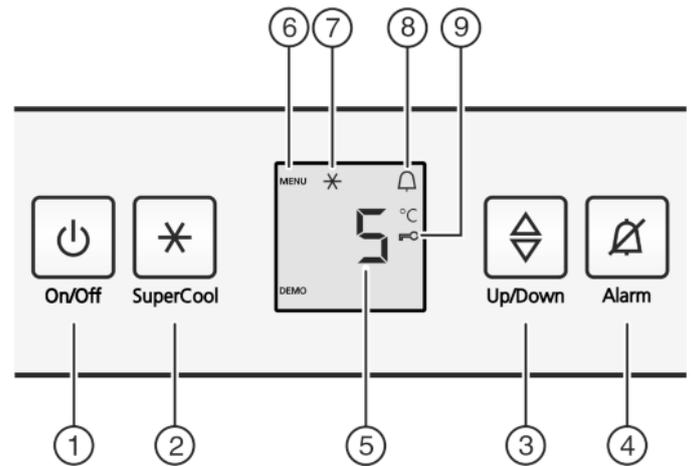

Fig. 2
- ▶ Press the On/Off button Fig. 2 (1).
- ▶ Press the SuperCool button Fig. 2 (2) for about 5 seconds.
- ▷ The Menu symbol is shown on the display, Fig. 2 (6).
- ▶ Confirm briefly with the SuperCool button Fig. 2 (2).
- ▷ The child lock symbol, *Fig. 2 (9)*, lights up on the display.
- ▶ Confirm briefly with the SuperCool button *Fig. 2 (2)*.
- ▶ Briefly press the On/Off button *Fig. 2 (1)*.
- ▶ Press alarm button *Fig. 2 (4)*.
- ▶ Call up temperature function: press the setting button *Fig. 2 (3)*.
- ▶ Change the temperature in 1 °C steps: Press the setting button *Fig. 2 (3)* until the required temperature is indicated in the temperature display.
- ▶ Briefly press SuperCool button *Fig. 2 (2)*.
- ▷ The SuperCool symbol *Fig. 2 (7)* lights up in the display.
- ▷ The SuperCool symbol *Fig. 2 (7)* goes out in the display.